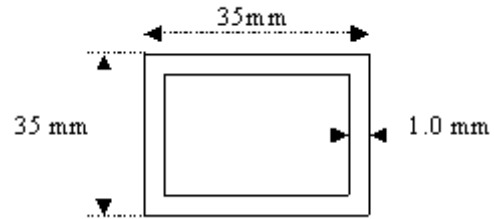
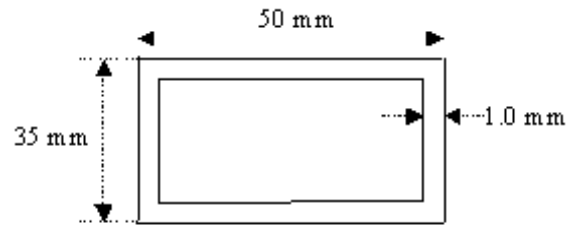

Figure 5:
Figure 6:
6. Find crippling stress of the rectangular tubes shown in Figure 5 and figure 6. using Gerard's method when formed from following material.